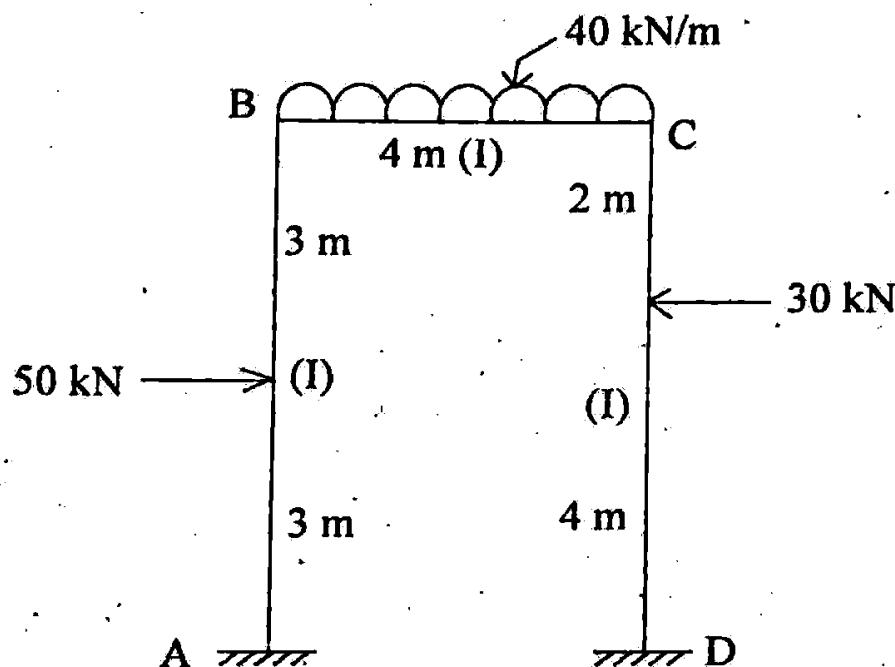

Fig. 4
4. Analyse the portal frame in Fig. 4 by moment distribution method. Draw B.M.D. 13.